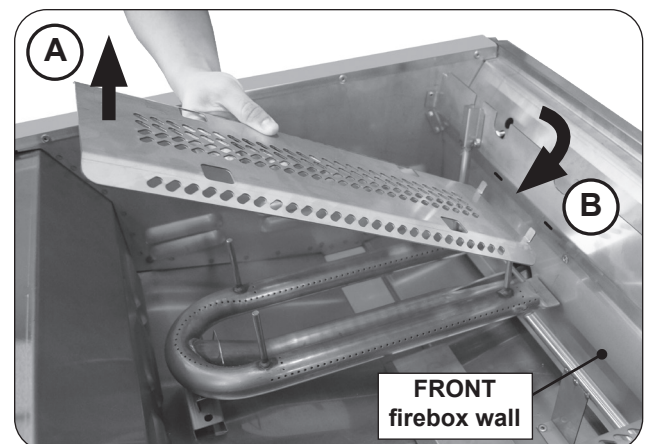

Fig. 40-4 Heat distribution grid(s) removal
2. Remove the grid(s) as shown in Fig. 40-4. Lift from the rear, and free the front tabs (on the grid) from the cutouts in the front firebox wall.